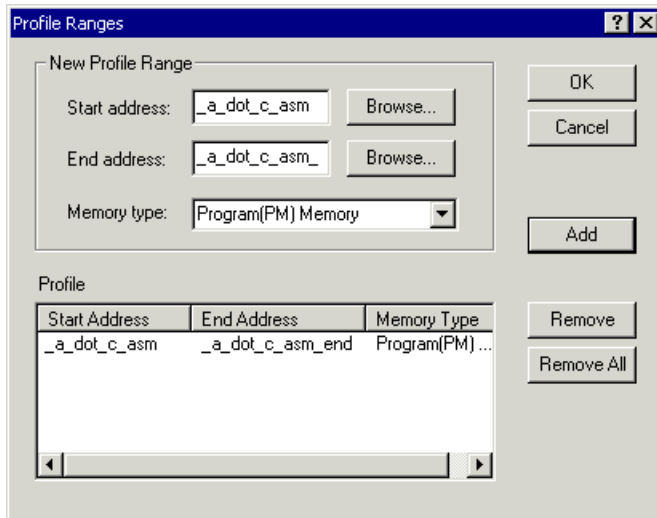

Figure 3-22. Profile Ranges Dialog Box
2. From the **Tools** menu, choose **Profile**. Then choose **Add/Remove Profile Ranges** to open the **Profile Ranges** dialog box, shown in Figure 3-22.